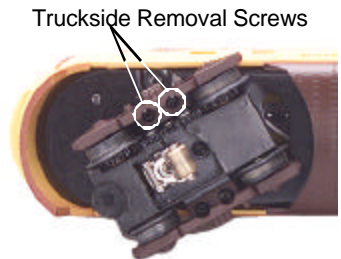

Figure 5. Screws to Remove to Access the Traction Tires
1. Remove the truck sides from the truck block in order to slip the new tire over the grooved drive wheel. To do this, remove the screws as shown in Fig. 5.